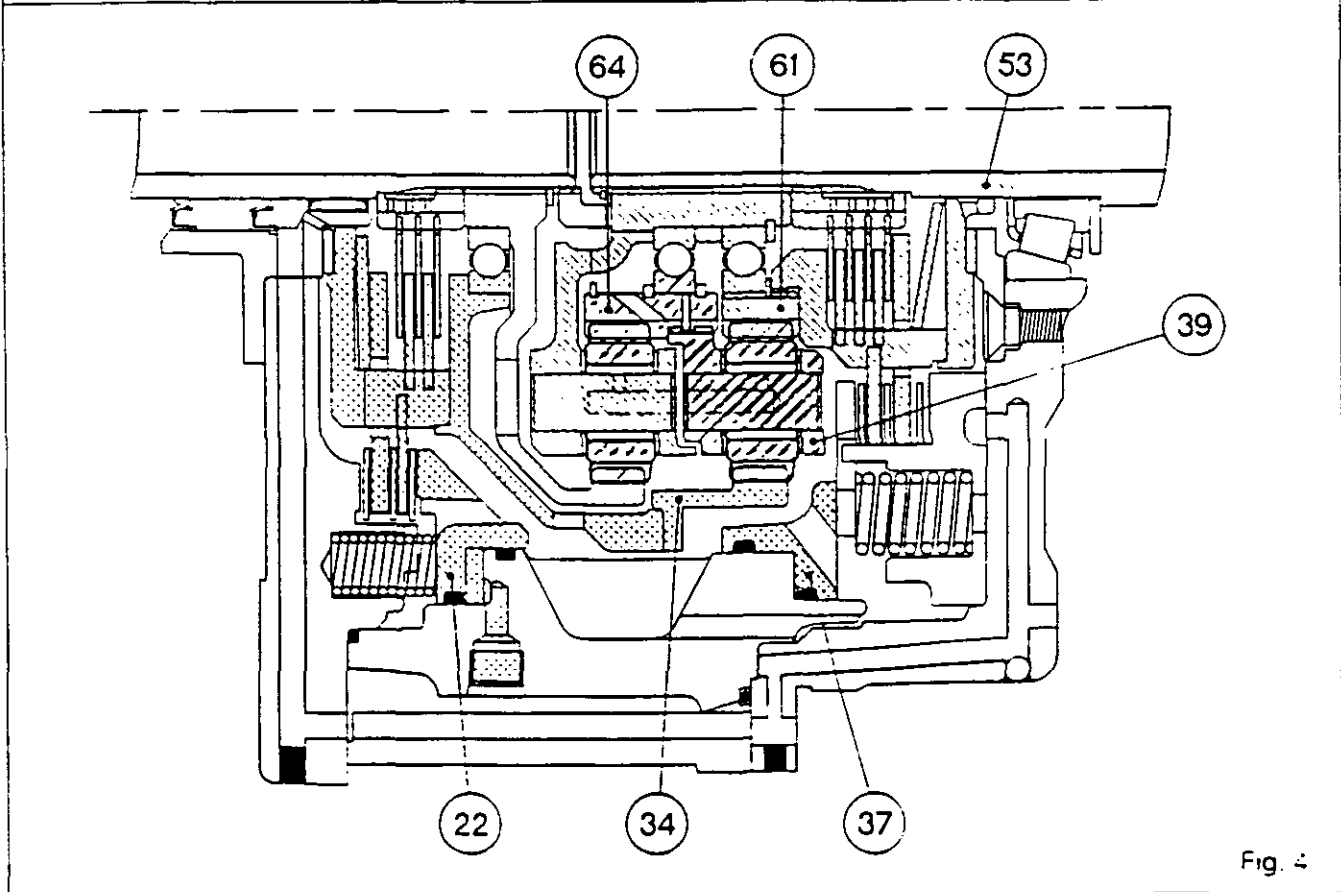

Fig. 4
**Ratio B = 1:1.386 reduction (Fig. 4)**